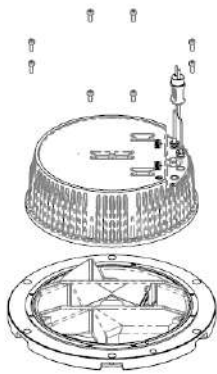

Figure 5-23
- Dismount the screw connecting the inner cover and upper cover to separate them (see Figure 5-23);